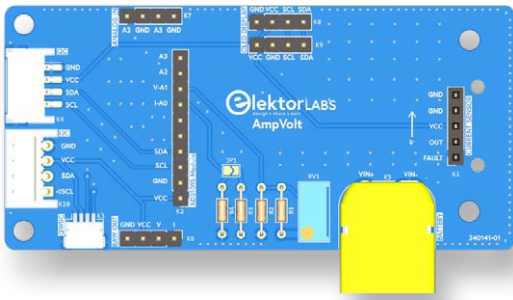

Figure 1: The AmpVolt v2.0A Variant was designed for both large and compact carrier sensor modules.
- AmpVolt v2.0A: This variant supports both large and compact carrier modules, making it suitable for high-current applications by directly utilizing the pads on the sensor modules. However, it does have a limitation due to its size. It cannot accommodate XT60 connectors like the previous version. To handle high-current loads, increasing the PCB from 2 to 6 layers is necessary (Figure 1).